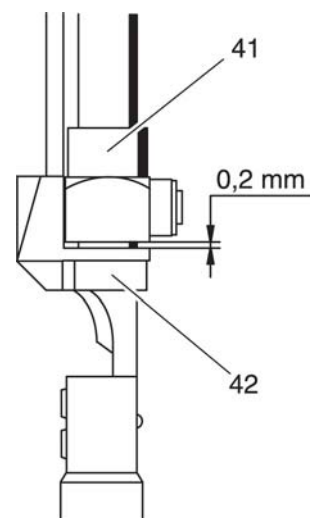

Fig. 9a
- Adjust guide piece 42 with a clearance of 0.2 mm to tie bar 41 (fig. 9a).